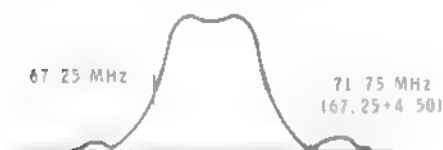

Figure 15A
- () Set the SWEEP RANGE control to the RF position. The trace shown in Figure 15A should be obtained.